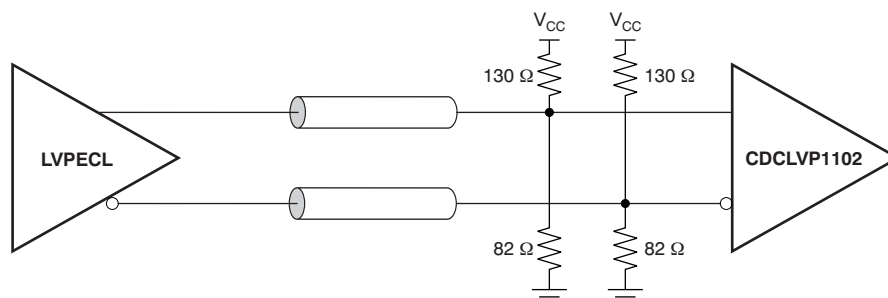
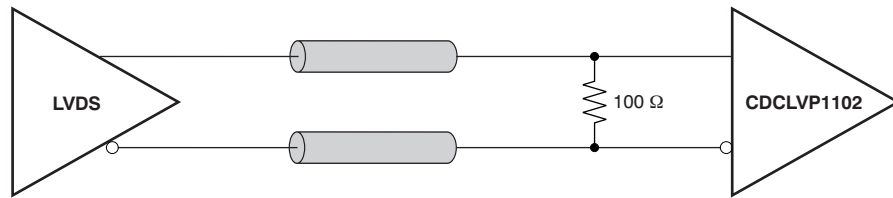
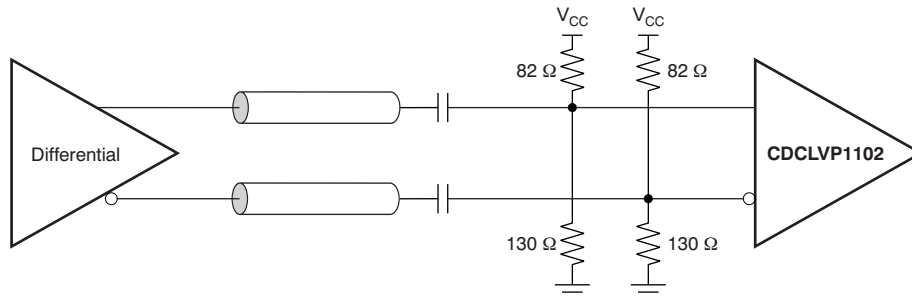

Figure 5. DC-Coupled LVPECL Input During Device Test
Figure 6. DC-Coupled LVDS Input During Device Test
Figure 7. AC-Coupled Differential Input to Device
(1) Figure 5 and Figure 6 show DC test setup. Figure 7 shows AC test setup.